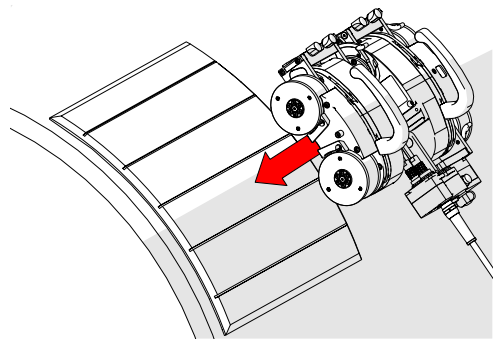

Fig. 285 - Lower crawler to mat
3. Place and hold the crawler on the installation/removal mat (Fig. 285).